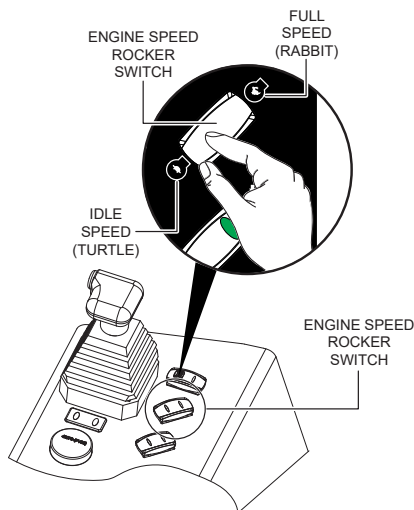

Figure 32. Engine Shutdown
1. On the left side of the **engine speed rocker switch** (*turtle*), press down until the engine is at idle (Figure 32). Let engine idle for 3-5 minutes.